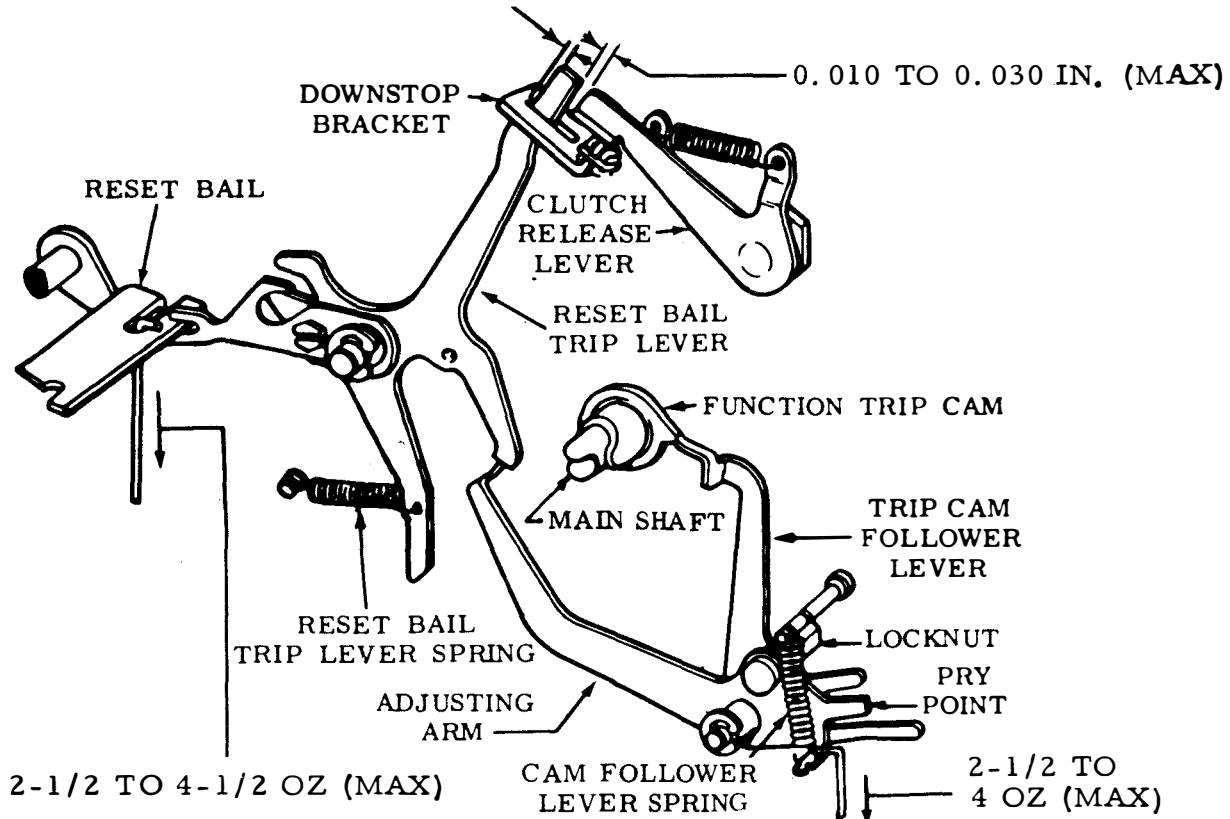

Figure 6-259. Cam Follower Lever Spring and Reset Bail Trip Lever Spring
(1) Cam Follower Lever Spring. Adjust as follows:
- (a) Refer to figure 6-259.
(2) Reset Bail Trip Lever Spring. Adjust as follows: